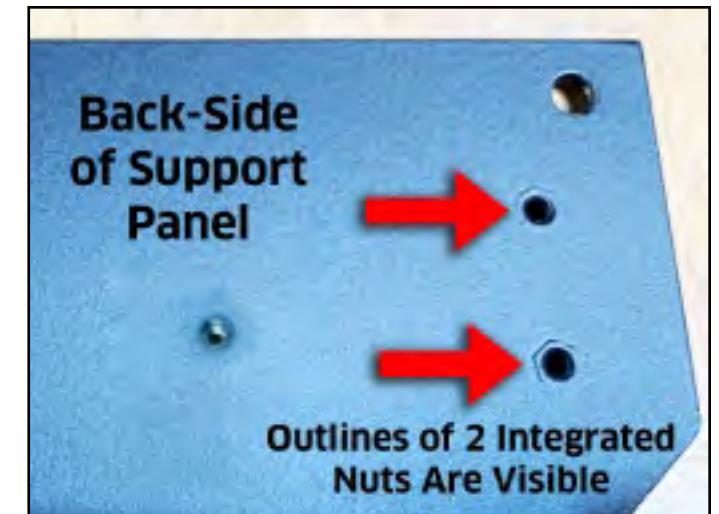
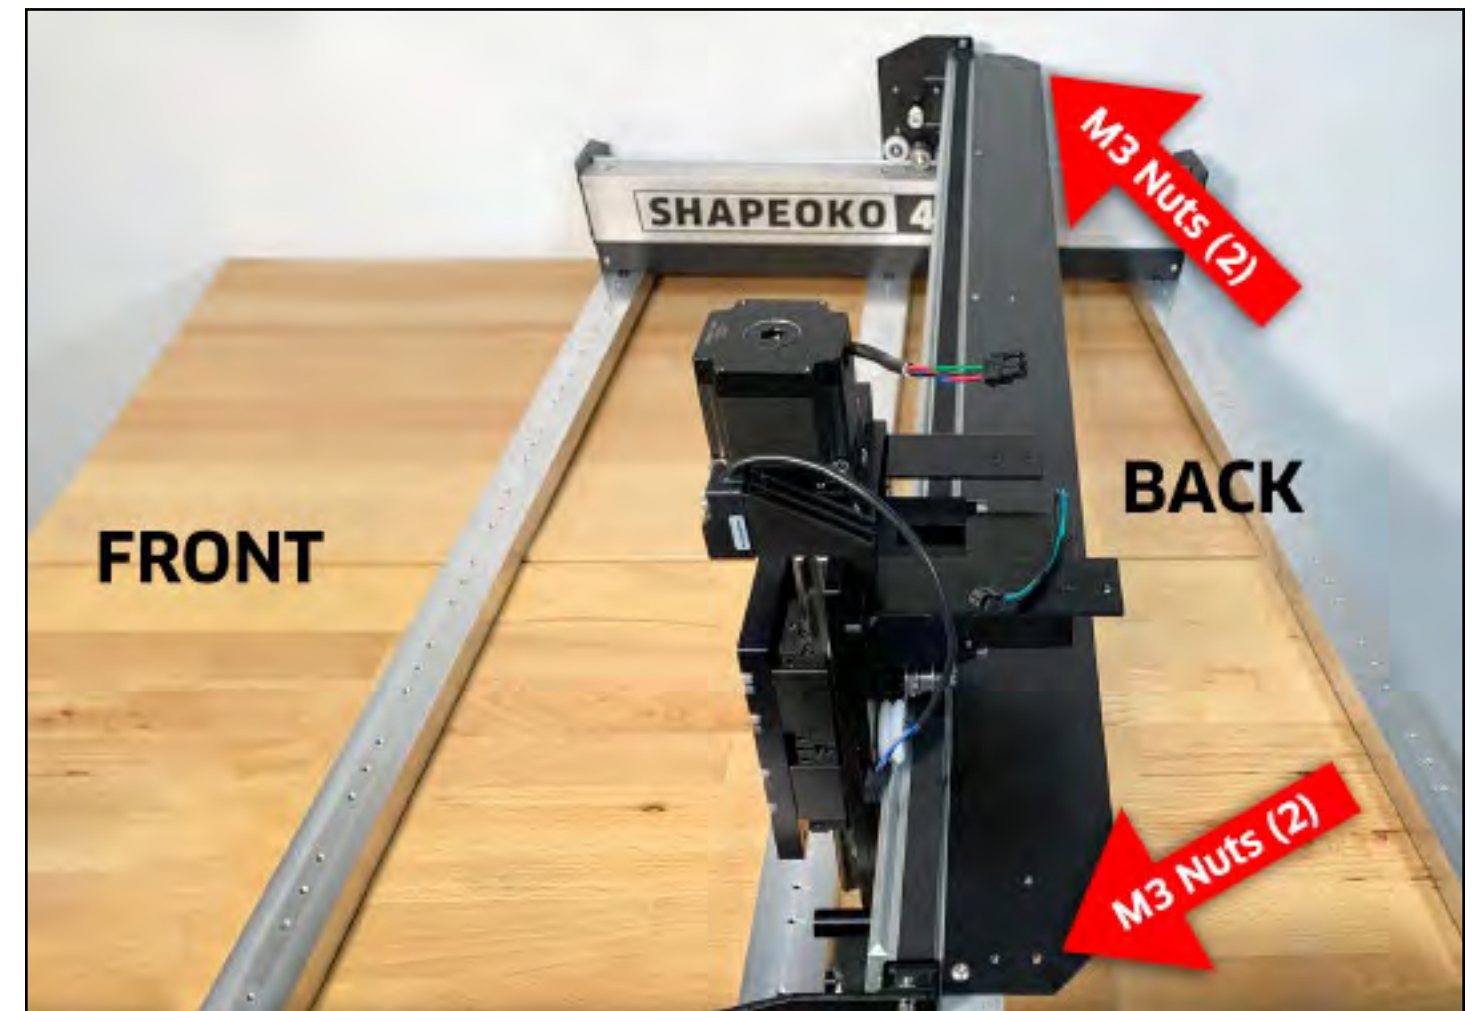

Figure 5-13
Figure 5-12
- Identify the back-side of the X-Axis drag chain support panel. See **Fig. 5-13**.
- Use a 2mm hex key and three (3) M3×6mm BHCS to secure three cable tie mounts to three right-side up nuts along the center of the BACK-SIDE of the support panel.
- Use a 2.5mm hex key and five (5) M4×6mm BHCS to secure the support panel to the gantry. See **Fig. 5-12**.